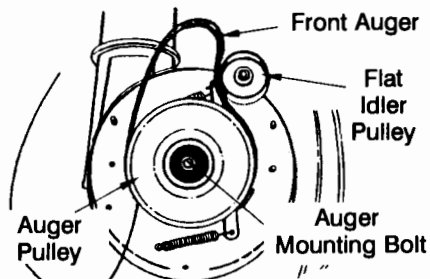

FIGURE 28
- To remove the front auger drive belt, push the flat idler pulley to the left, and lift front auger drive belt from the front auger pulley. See Figure 28. Replace